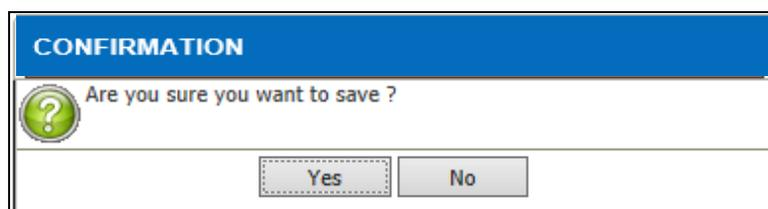

Figure 3.3-8 Save Record Alert Message
- After saving record, alert message will be displayed as per Figure 3.3-8 & Figure 3.3-9